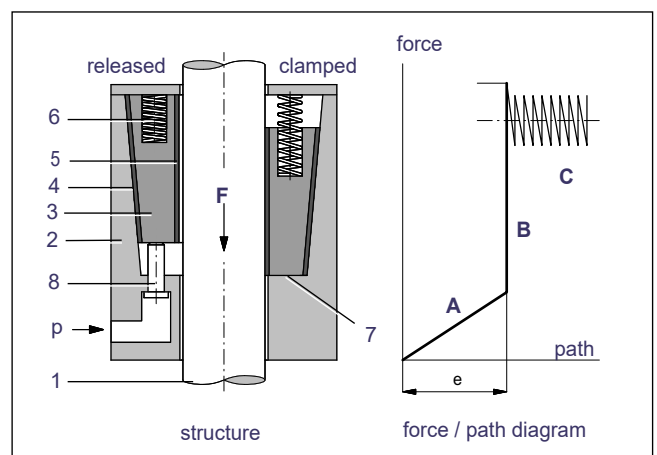

Fig. 1: Design principle
The Safety Catcher secures the load as soon as pressure is released from the plungers (8), Fig. 1. Then the action of the springs (6), Fig. 1 causes the clamping jaws (3), Fig. 1 to clamp the rod (1), Fig. 1 firmly, whereby an initial friction contact between rod and clamping sleeve is achieved (contact condition).
The clamping jaws (3), Fig. 1 are drawn into the clamping position at their stops (7), Fig. 1 after having moved the distance "e", Fig. 1 (approx. 5 to 15 mm, depending on design). This movement is illustrated as phase A in the force/path diagram, Fig. 1.
If the load is increased further (phase B, Fig. 1), the rod remains in its clamped position, independent of the load, until the static holding force  $F^*$ , Fig. 1 is reached. As soon as this limit is exceeded, the Safety Catcher (phase C, Fig. 1) generates a mean dynamic braking force  $F$  (holding force), Fig. 1 and thus dissipates the kinetic energy of the falling mass.